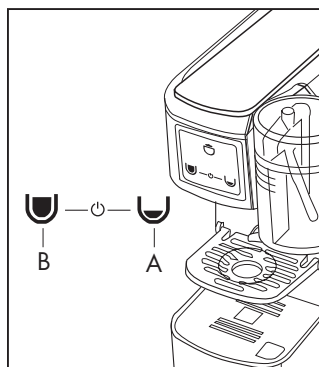

Fig. 4
- Switch on the machine by pressing one of the symbols (A) or (B) or simultaneously the 2 symbols (A) and (B) **(Fig.4)**.
- The buttons on the control panel (2) will start to blink; when they appear with a fixed light the machine is ready for use **(Fig.4)**.
- Check there are no capsules inside the machine and that there is water in the tank (8); switch on the machine by pressing one of the symbols (A-B) or simultaneously the 2 symbols (A-B) **(Fig.4)**.
- Close the small cup support (9) and place a large empty cup under the opening for dispensing (4).